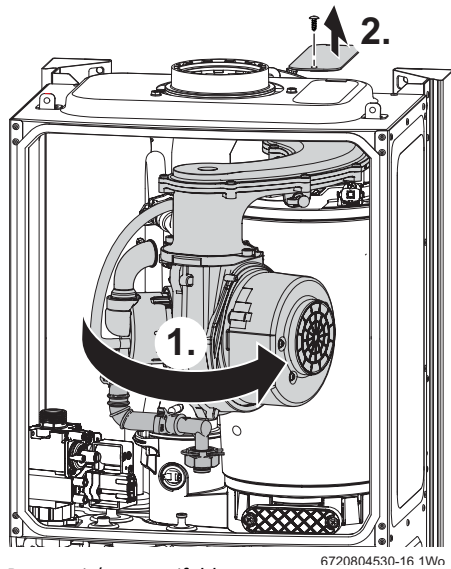
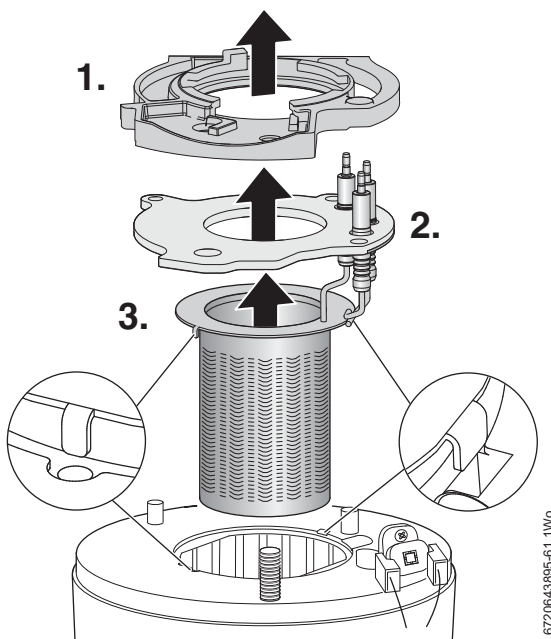
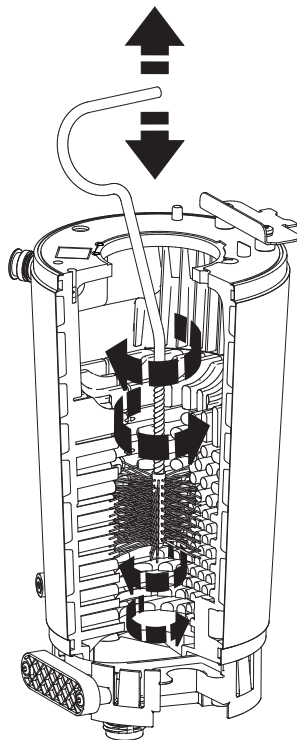

Fig. 60 Rotate air/gas manifold
Fig. 61 Burner removal
Fig. 64 Cleaning heat exchanger
1. Refer to figure 60 and rotate fan and air/gas manifold assembly around the top of the heat exchanger until it stops at the lug.
- Refer to figure 61
- ▶ Refer to figure 64 and access the heat exchanger flue ways by inserting the cleaning brush (7 716 192 312) through the top access hole in the casing, removal of panel shown in figure 60.
- ▶ Re-assemble ensuring that the lower baffle (2) and the top baffle (1) are refitted correctly.
- ▶ Refer to figure 61 when re-fitting the burner to ensure that it fits centrally within the heat exchanger and location tabs are situated in location holes.